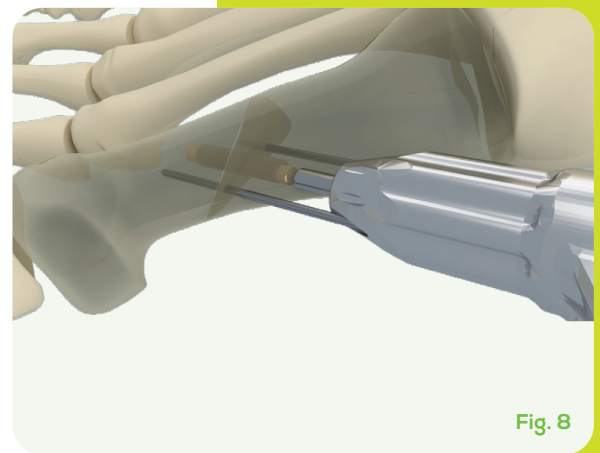

Fig. 8
- 8 Insert the AlloMate Bone Pin through the central hole of the Cortical Bone Inserter. Then insert the Tamp into the central hole of the Inserter. By hand or with light taps of a mallet advance the AlloMate Bone Pin into the pre-reamed hole using the Tamp. (**Fig. 8**)